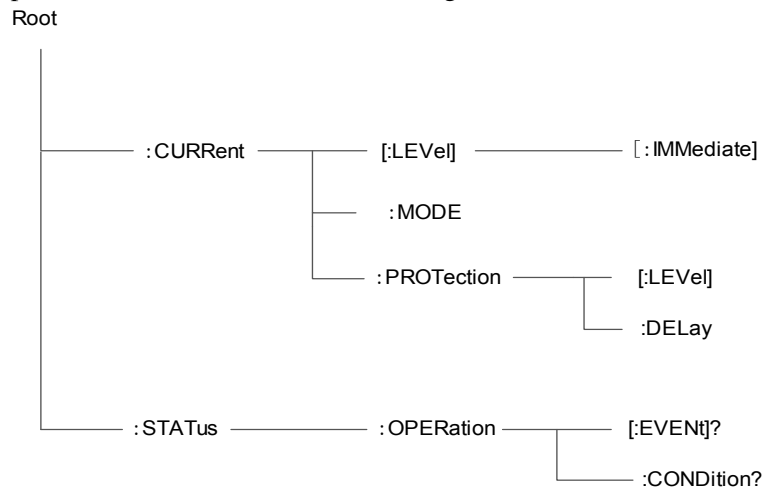

Fig. 1-1 Command Tree
**Subsystem commands:** Subsystem commands focus on specific functions of the electronic load. They are organized into an inverted tree structure with the “**ROOT**” at the top. Fig. 1-1 shows a part of a subsystem command tree. You can operate all kinds of commands according to the structure.